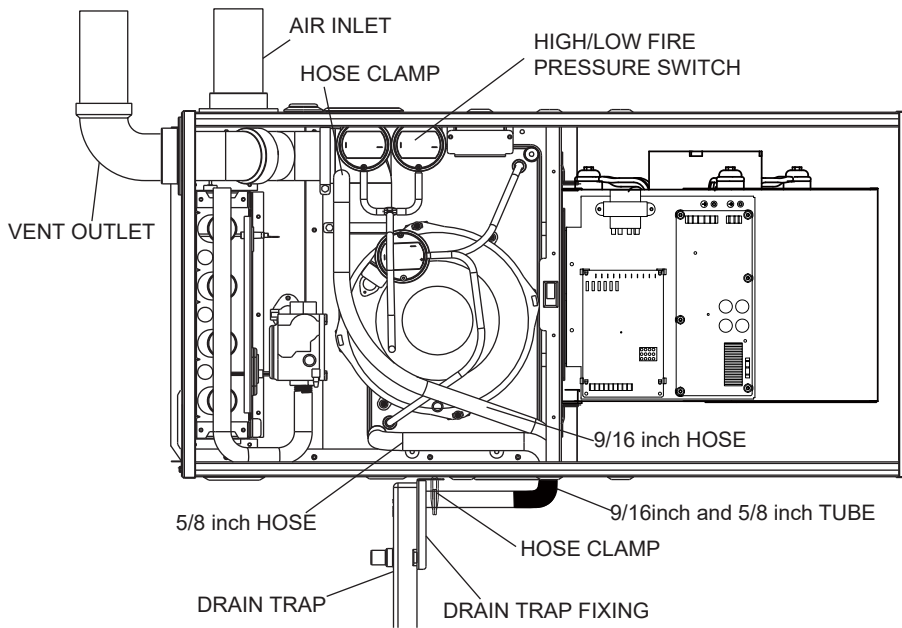
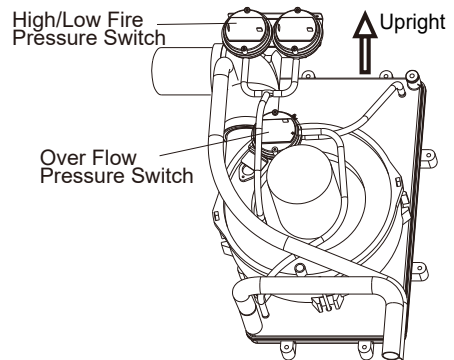

Fig. 6-10 Horizontal Left Side Installation, Vent Through Top Panel
Fig. 6-12 Pressure Switch Position
FOR HORIZONTAL LEFT INSTALLATION (AIR DISCHARGE TO THE LEFT), HOSES OF CONDENSATE OVERFLOW AND THE PRESSURE SWITCH NEED TO BE RELOCATED. (SEE FIGURE 6-10 & 6-11)
2. Air discharge to the left and vent through furnace top panel (see Fig.6-10 and Fig. 6-12)
In this installation, hoses connecting between ports of overflow protection pressure switch (overflow switch) and pressure tabs on the collector box **MUST be switched**. The overflow switch has two ports, which is different from two other regular pressure switches that have only one port. Make sure that black port (positive) is connected to the lower position tap on condensate collector box and gray port (negative) to higher tap of condensate box. Connecting incorrectly will result in failure to protect condensate overflow. (See Fig. 6-12)